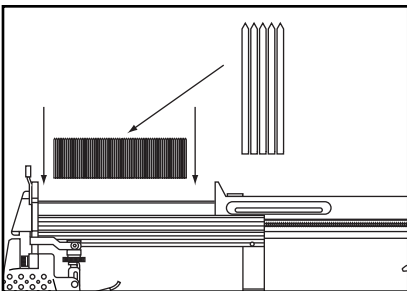

Figure 2. Loading the nailer/stapler.
4. Point the nailer/stapler up and insert a stick of nails/staples into the magazine as shown in **Figure 2**. Make sure that the pointed ends of the nails/staplers point in the same direction as the Model H2912/H2913 nose and the nails/staples rest in the shallow slot at the bottom of the magazine.